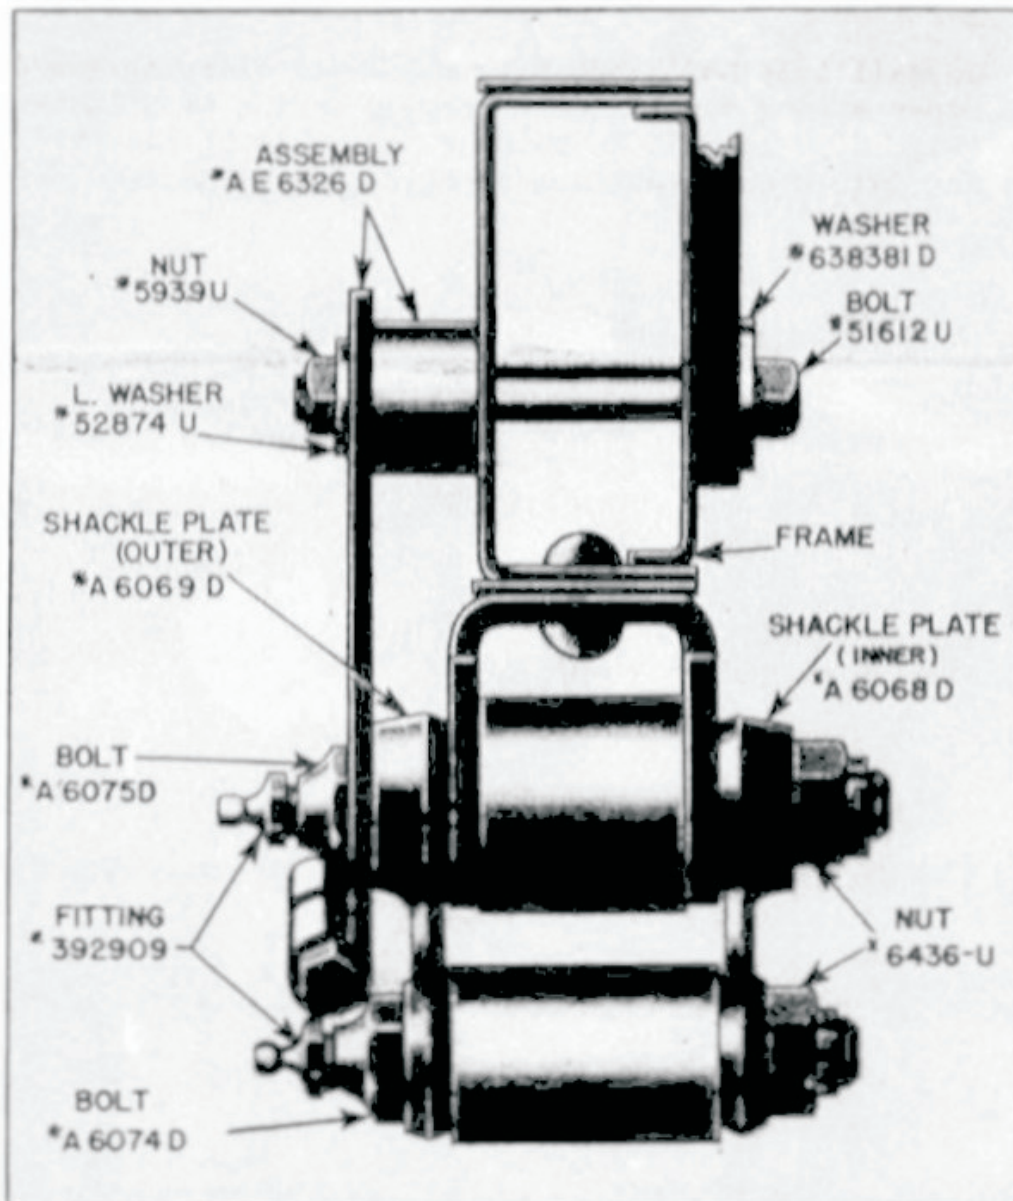

FIGURE 2.
- m. Install upper spring shackle bolt locking device assembly No. AE-6326-D in position as illustrated, (Fig. 2), being sure that the grease hole is still in the correct position. Install washer No. 52874-U, and nut No. 5939-U on the new steering gear housing to frame side rail bolt and tighten.